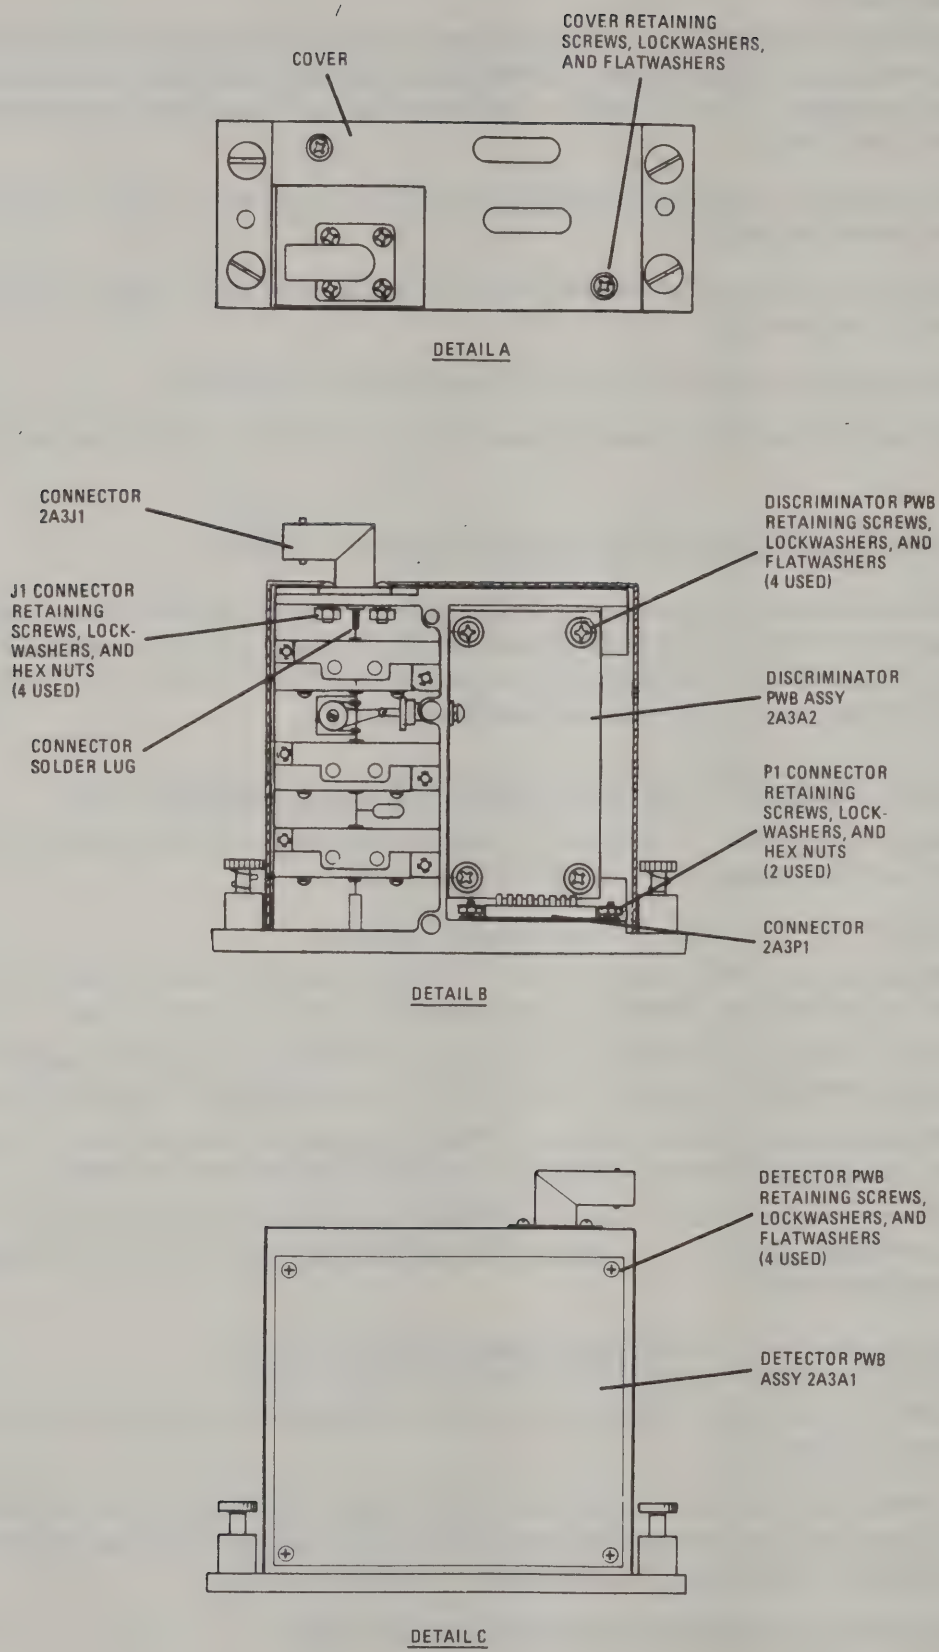

Figure 3-17. Loading-Phasing Discriminator Assembly 2A3 - Disassembly Details
1. Refer to detail A of figure 3-17. Use a No. 1 Phillips screwdriver to loosen the two cover retaining screws, lockwashers, and flatwashers. Remove hardware and cover.
2. Refer to details B and C of figure 3-17 and proceed as follows:
2. Loading-Phasing Discriminator 2A3 (refer to paragraph 3-69). When reassembling the unit, assemble connector 2A3P1 to the unit first. This will minimize wire stress on the Detector and Discriminator PWB's 2A3A1 and 2A3A2, respectively. Also, make sure that the soldered connection to connector 2A3J1 (detail C of figure 3-17) contains just enough solder for good electrical continuity.